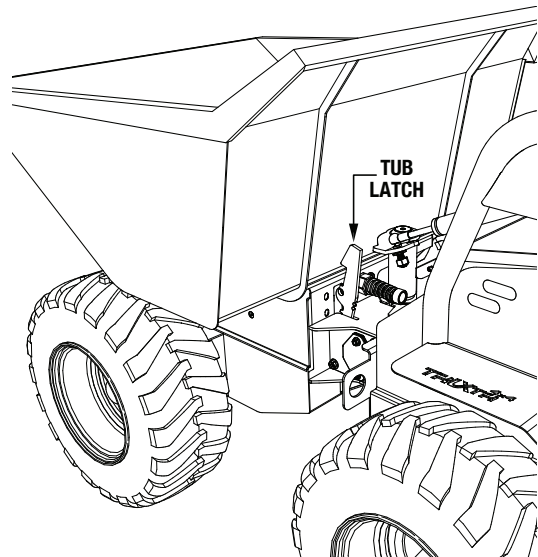

Figure 74. Tub Latch
6. Place the tub in the forward position and make sure it is secured firmly under the tub catch (Figure 74). Adjust the tub catch if necessary.